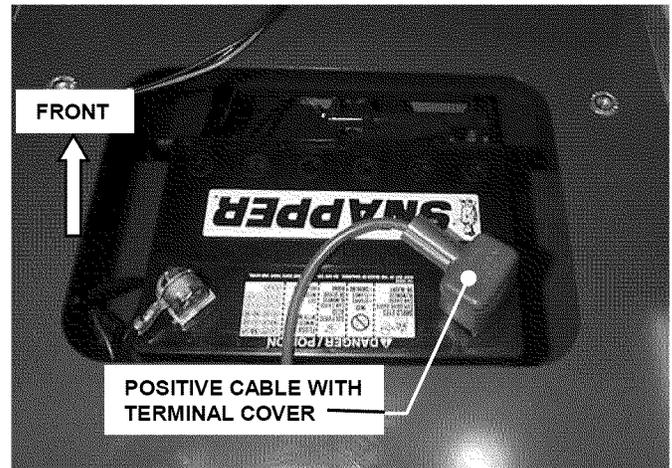

FIGURE 4.14
2. Observe and note cable positions on battery. See Figure 4.14.
Cables must be connected to battery terminals in the proper position as show in Figure 4.14. DO NOT attempt to charge battery while installed on the Machine. DO NOT use "BOOST" chargers on the battery.
**IMPORTANT:** Your Hydro Rear Engine Rider is equipped with a specially designed battery that allows the machine to be placed on the rear bumper for up to 2 hours with no acid leakage. Failure to use a genuine Snapper battery or installing the Snapper battery incorrectly will result in damage to your machine. The Snapper battery must be installed with the battery caps towards the front of the machine and the terminals towards the rear. See Figure 4.14.